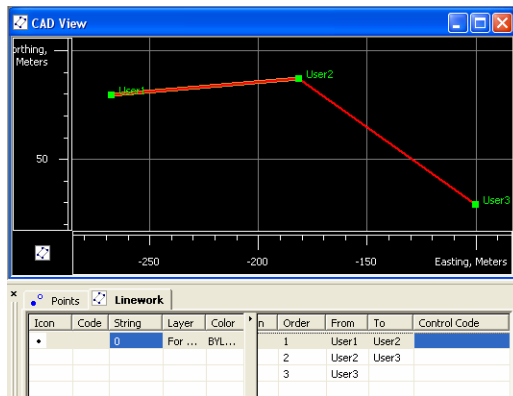

Figure 5-43. Create Line Segments for the Rectangle
1. If needed, create the line segments and points that will become the rectangle. Use the ‘append point’ feature as described in “Appending Points to a Line” on page 5-22 to add points and line segments (Figure 5-43).